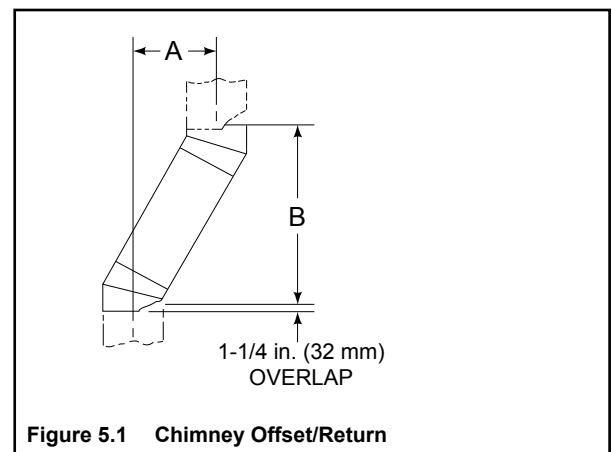

Figure 5.1 Chimney Offset/Return
- Measure how far the chimney needs to be shifted to enable it to avoid the overhead obstacle. See Figure 5.1. Use dimension “A” to determine chimney section required to achieve the needed shift.